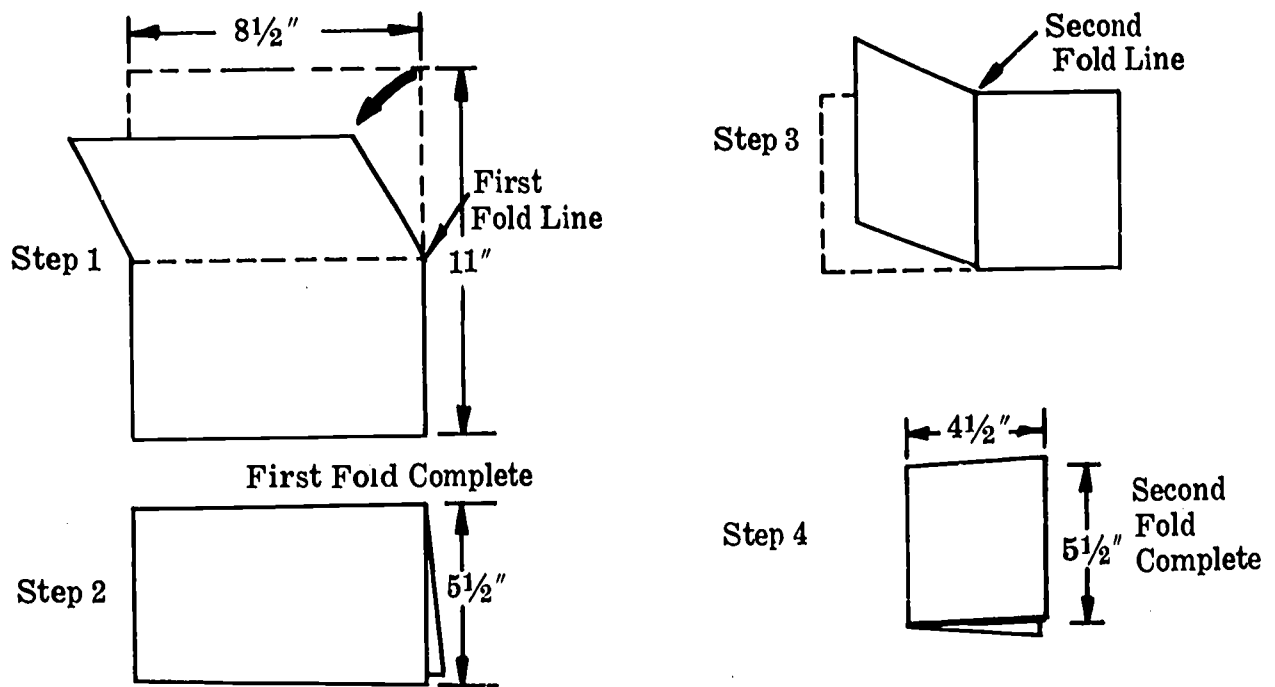

Fig. 85-11. Service Manual
2. The finished booklet size will be trimmed to 4" x 5". Be certain to keep your designs within this space. See Fig. 85-11.
5. Fold the signatures as shown in Figs. 85-11 and 85-12.
- 1. Collate the cover and signature as shown in Fig. 85-11.